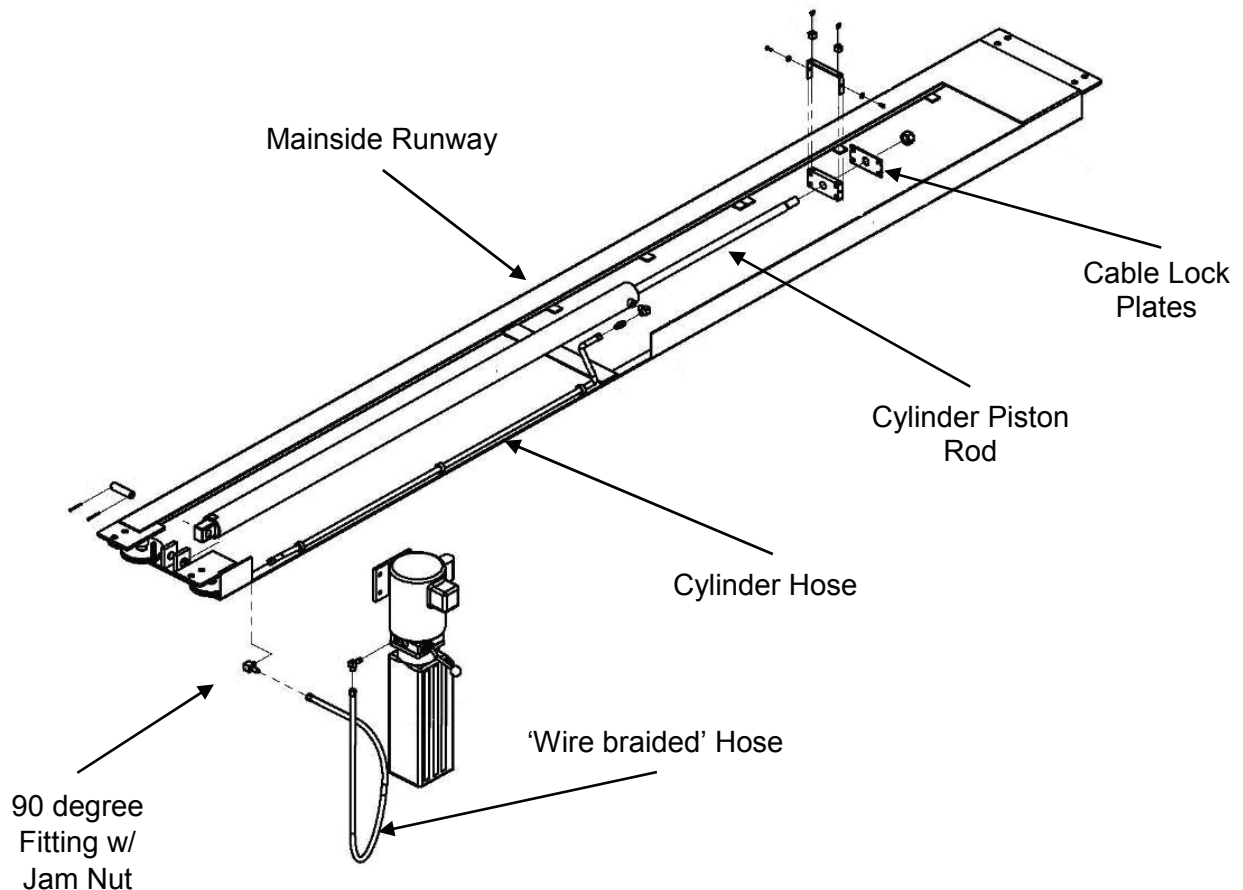

Fig. 2
2. While the Mainside Runway (Fig. 2) is upside down, find the end of the Hydraulic Hose that is already connected to the Cylinder. Locate hole on the side of the Mainside Runway and install the 90 degree fitting securing to runway with Jam Nut. Also remove the plastic shipping ties securing the pre-installed Cables.